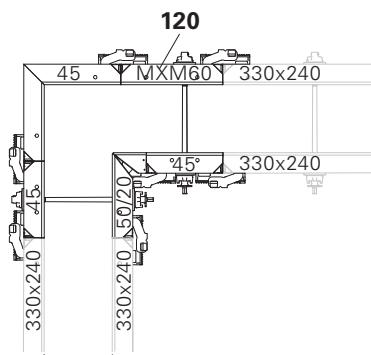

Fig. C1.07
- Fig. C1.07 + C1.05a + C1.05b